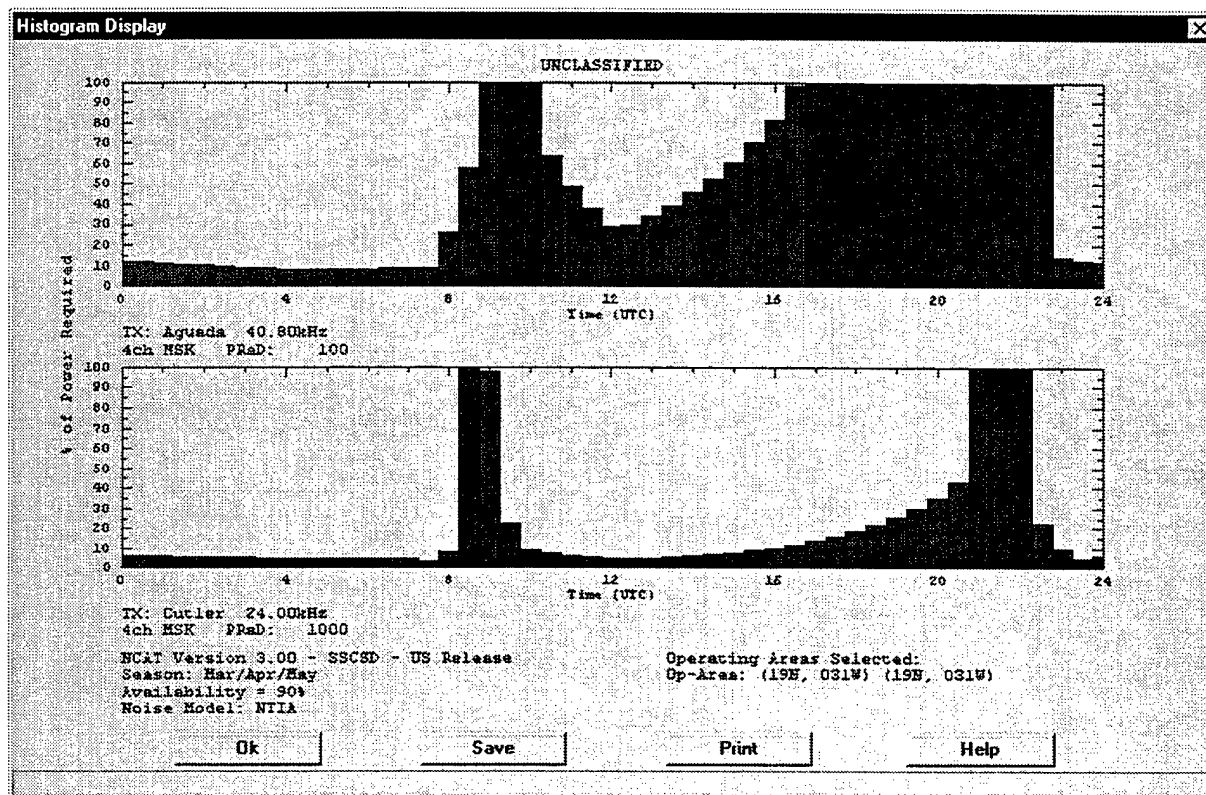

Figure 17. Example of a percentage of power histogram.
- A determination of the percentage of full power for each of the selected transmitter(s) that is required to fully cover the combined selected receiver area(s). To perform a Percentage of Power analysis, select Run Scenario -> Show Percent Power.... Figure 17 shows an example of the resulting hard copy.